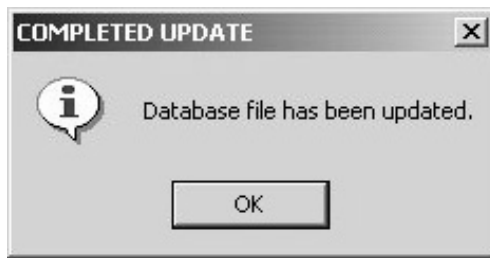

Fig.37
11. When the database has been successfully updated, the COMPLETED UPDATE dialog box (Fig.37) appears.